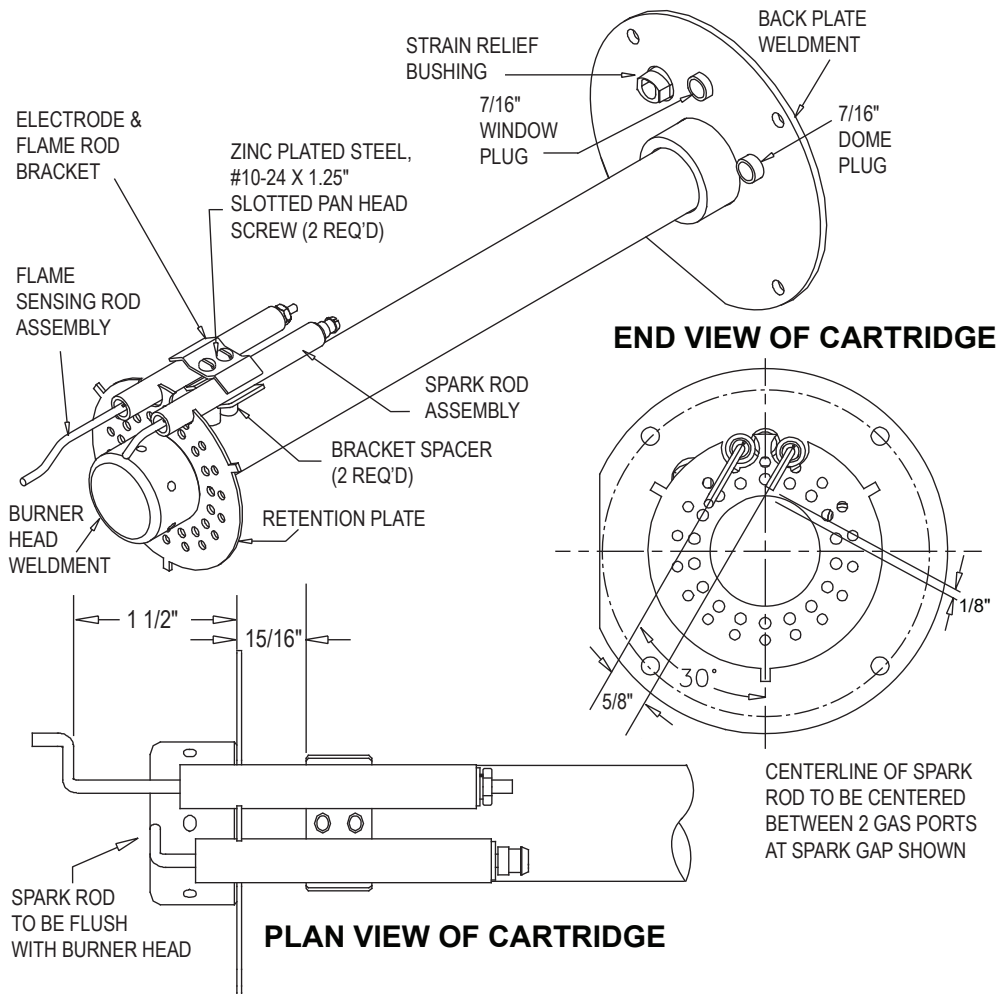

Figure 5: RE4400DS HTD Cartridge Assembly
- The flame sensing rod must be positioned as shown in Figure 5 so that the Electronic Control will detect a proper flame.